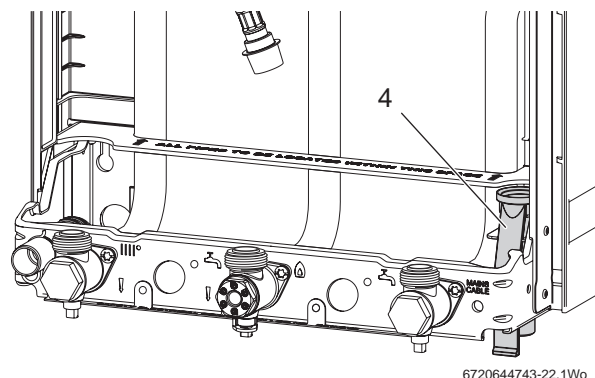

Fig. 58 Pressure relief drain pipe
- Referring to figure 58, check pressure relief drain pipe (1) is correctly fitted and securely tightened.